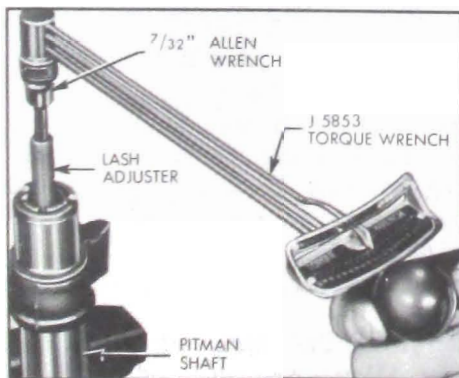

Figure 8-58—Checking Torque on Lash Adjuster
3. Check the torque on the lash adjuster. See Figure 8-58. If torque exceeds 15 inch pounds, pitman shaft assembly should be replaced.